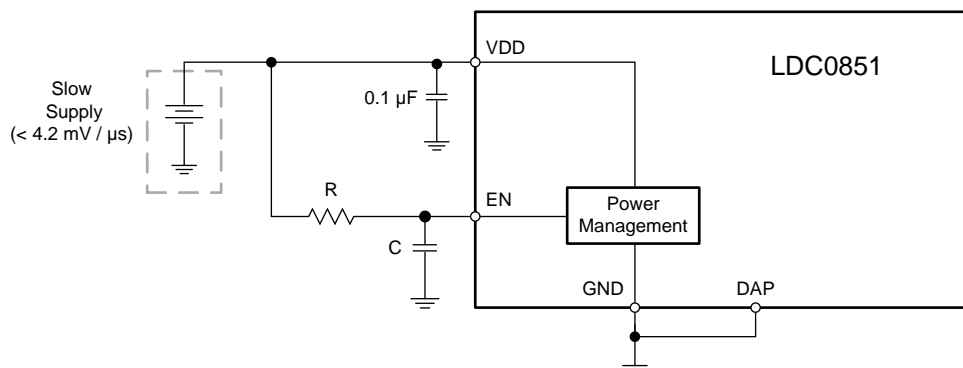

图 33. Supply Connections for Slow Ramp Rate
For supply ramp rates slower than 4.2 mV/ μs , an RC low pass filter must be added to the enable input (EN) as shown in Figure 33. Alternatively, the EN pin may be tied to a nanotimer or microcontroller to wake up the LDC0851 after VDD has ramped to its nominal value.